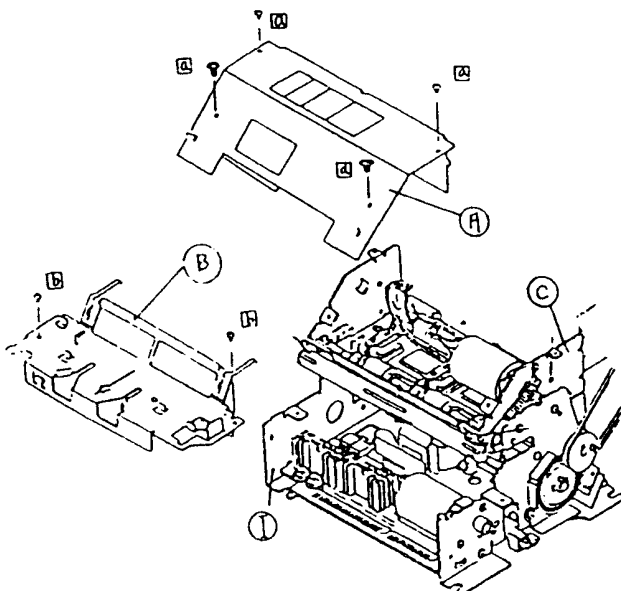

Figure 4-1. Printer Disassembly
1. Remove the four screws (a) on the Upper Frame Assembly, C, and remove the Cover, A. See Figure 4-1, below.
- Position the Ribbon Frame, B, on the Lower Frame Assembly, I, and replace the two screws ② (see Figure 4-1, above).
- Position the Cover, A, on the Upper Frame Assembly, C, and replace the four screws -④.